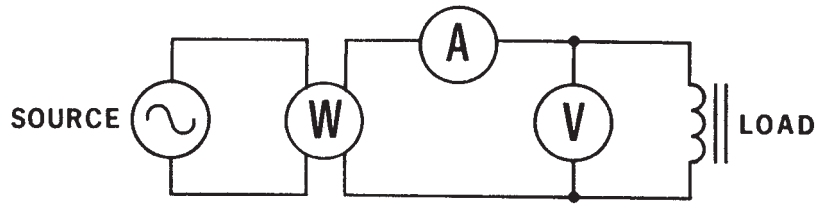
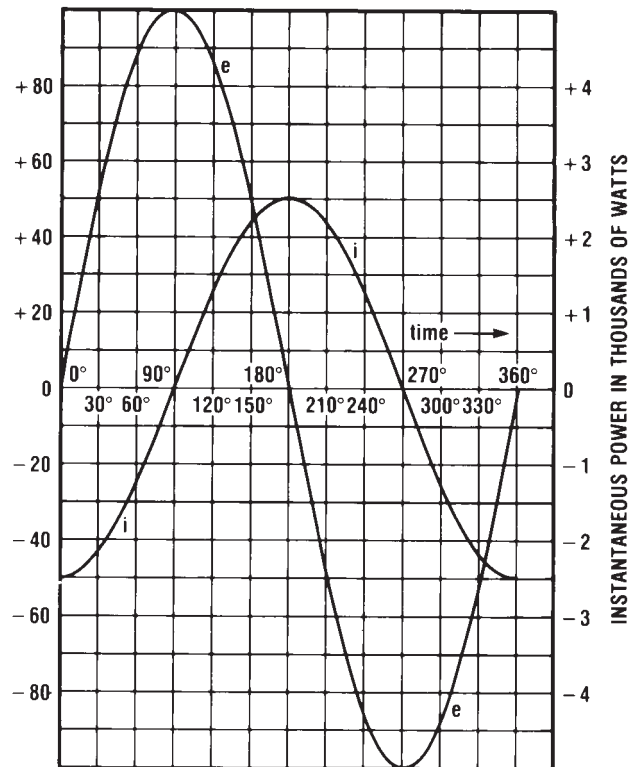

Figure 14-8.
Figure 14-9.
8. The load for the circuit shown in Figure 14-8 is inductive. With an inductive load the current lags the voltage by 90°. (The current has exactly the same wave shape as in procedures 1 and 2, but is simply shifted by 90° to the right). The AC current meter indicates 35.3 A and the AC voltmeter indicates 70.7 V.
- 9. The voltage and current waveforms, for the circuit of Figure 14-8 are shown on the graph of Figure 14-9.
- 11. Plot your calculated 45° interval power values on the graph of Figure 14-9, and draw the power curve through these points. Remember that the power curve is sinusoidal and goes through two complete cycles for every single cycle (360°) of the voltage or current.